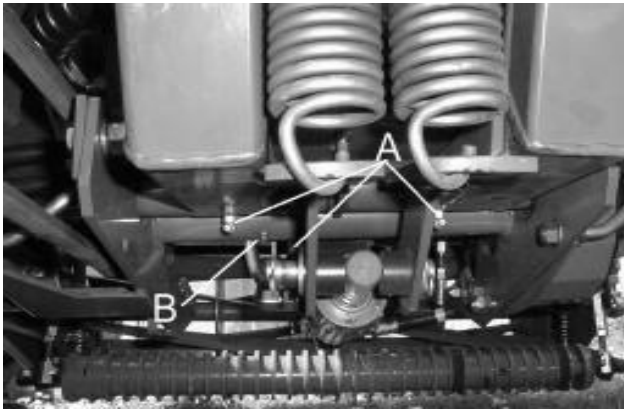

Fig.12
- (a) Front and rear lift arm pivots (A Fig.12).
- (b) Jackshaft (B Fig.12).
- (a) Scharnieren van voor- en achterhefarm (A in Afb. 12).
- (b) Blinde as (B in Afb. 12).